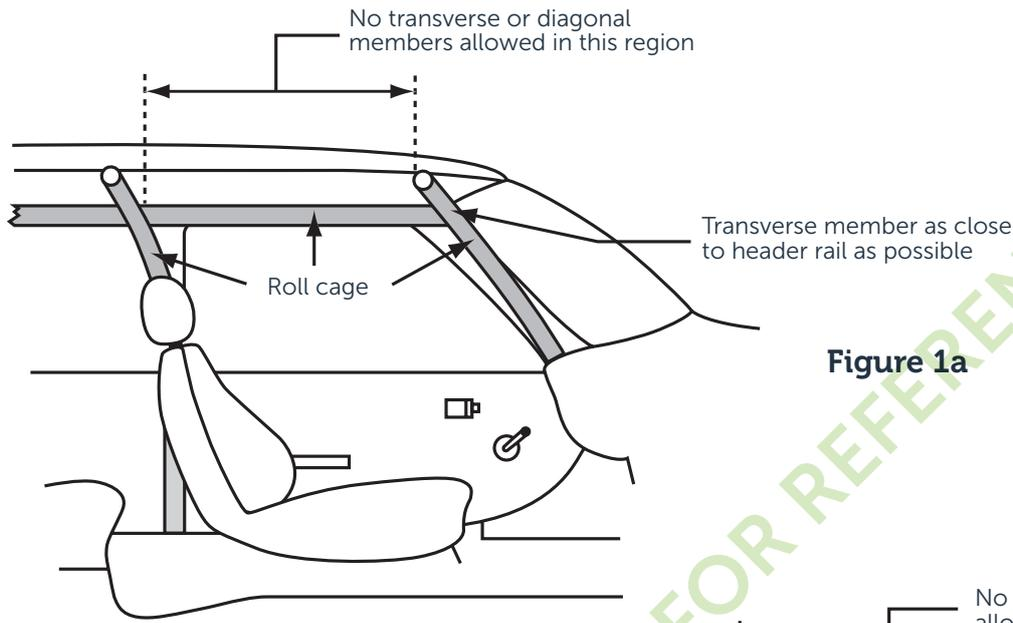
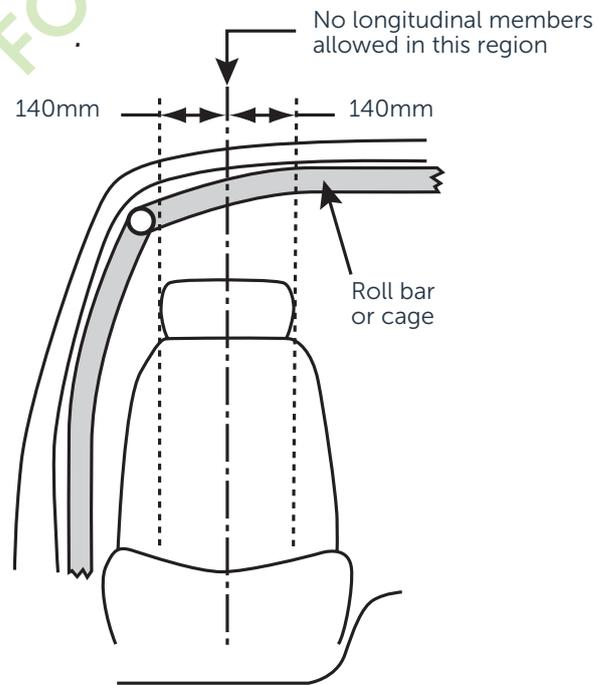

Figure 1a
Figure 1b
- Transverse and diagonal members must not be located between a point immediately above the rearmost part of the back of the front seats and a point as close to the windscreen header rail as it is possible to locate a transverse member (see Figure 1a). Longitudinal members must not be located directly above an area extending 140mm either side of the longitudinal centreline of a seat. (see Figure 1b).